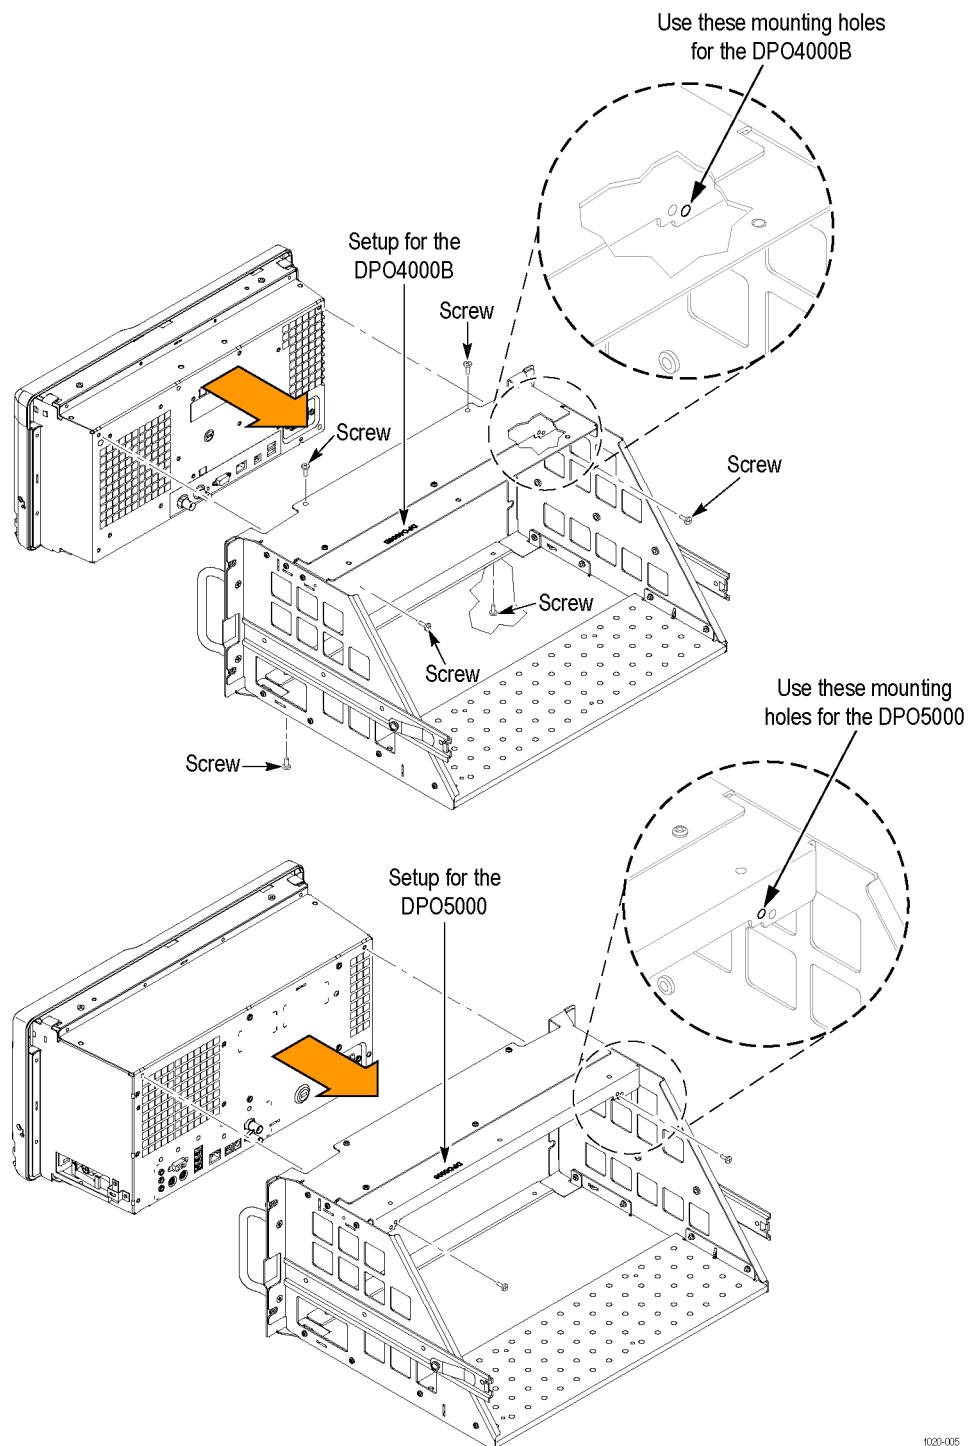

Figure 9: Installing the instrument in the enclosure
5. Install the instrument into the rackmount enclosure using six 6-32 x 0.250 inch flat-head T-15 TORX-drive screws tightened to 8 in-lb. (See Figure 9.)